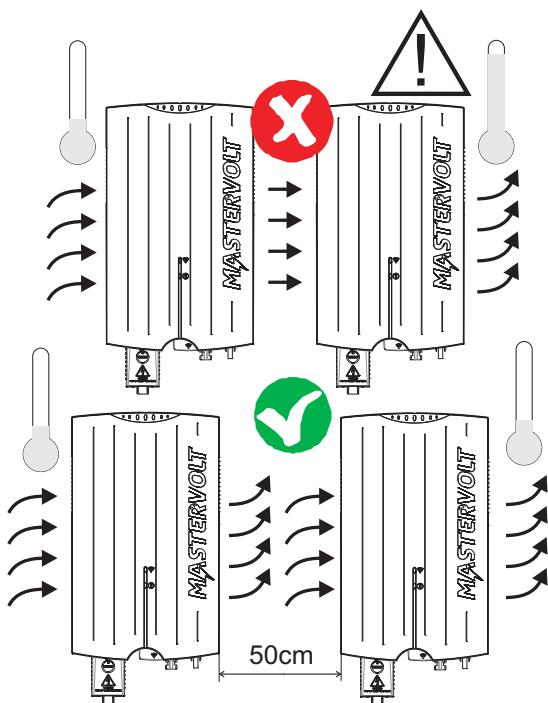

Figure 4-5
- When multiple Soladins are installed either side by side or vertically above each other, keep at least 50 cm horizontal and vertical clearance between Soladins. (Figure 4-5) If this is not possible, adequate measures must be taken to avoid one inverter heating up the other.